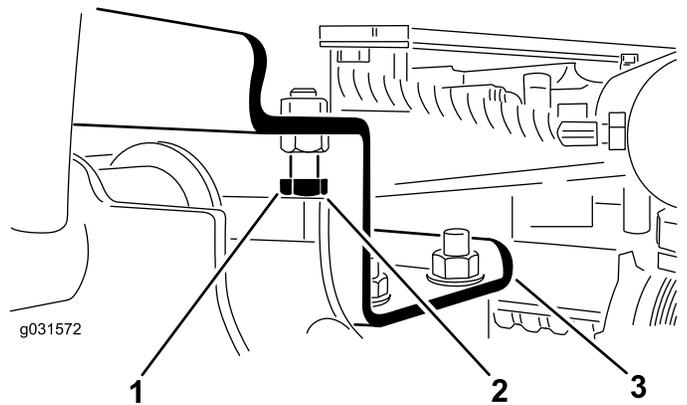

Figure 11
- A. Back off the stop bolts (Figure 11).